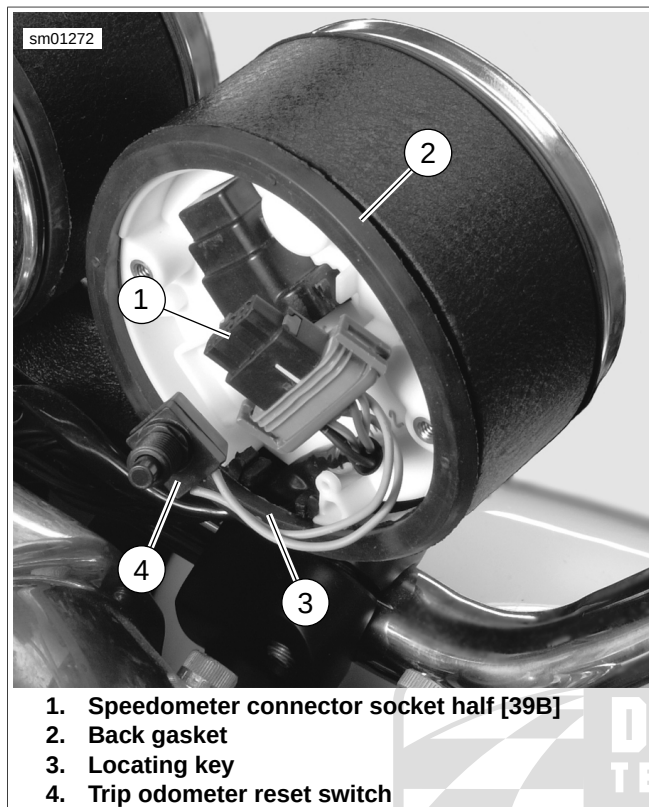

Figure 6-19. Speedometer: Dual Gauge Models
4. See Figure 6-19. Open latches on each side of speedometer connector [39] (1) and separate connector halves.